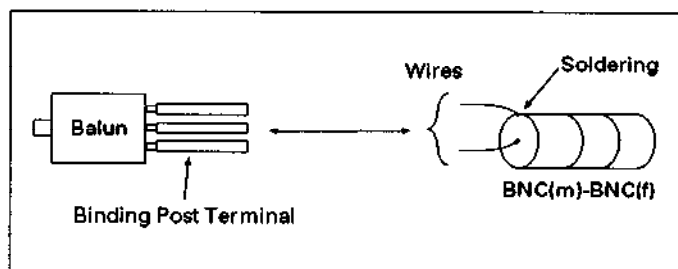

Figure 5. Assembling BNC connector
1. Assemble a female BNC connector as shown in Figure 5.